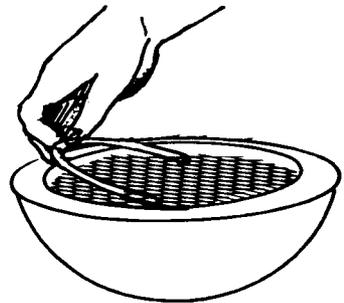

**FIGURE 3 BOWL CORE HANDLES**
2. A concrete bowl core for shaping the inside of the bowl (see Figure 3).
3. After the bowl core has become firm enough, scoop a depression into the surface to install two steel hooks made from the reinforcing rod. They should be about 22.5cm (9") apart, and should not protrude above the surface of the concrete. See Figure 3.